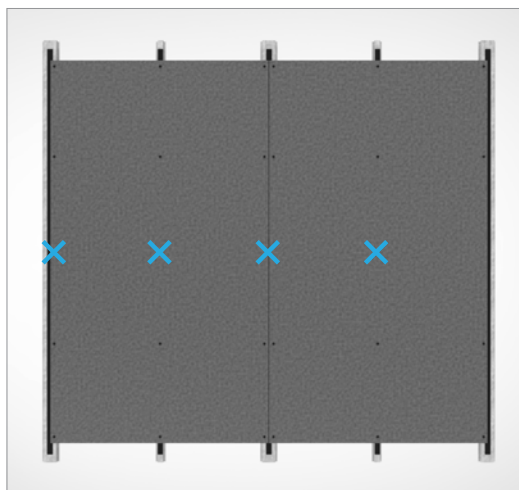

Figure 15.
- When installed in a vertical layout, the boards must have at least two fixed points as close to the centre of the panel as possible. (see Figure 15 & 16)